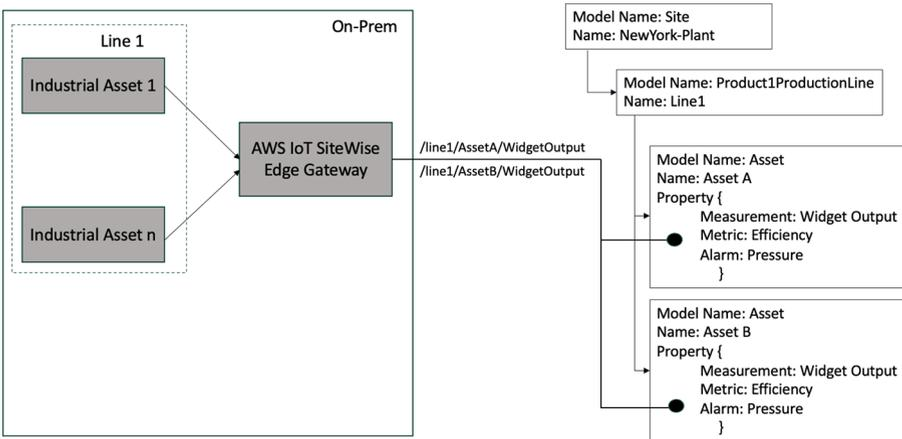

Figure 5-4. Digital model assets
- **Create digital model assets:** AWS IoT SiteWise enables the creation of digital models for assets, establishing a mapping between the collected data and the corresponding real-world assets. This digital representation helps organize and contextualize the information. What are these models? Think about models as classes in computer programming. Just like you create classes and instances of classes, you create models and instances of models. Every asset in the “real life” industry will have a model in IoT SiteWise—a model for the plant site, a model for the production line, a model for the machine, and so on. Instances of the model Plant Site would be, for example, Plant Site Chicago, Plant Site Austin, and so on. Instances for Production Line would be, for example, Production Line 1, Production Line 2, and so on. Why do we need to create these models and instances of models? To link measurements to real-world assets, as illustrated in the similar example shown in Figure 5-4.